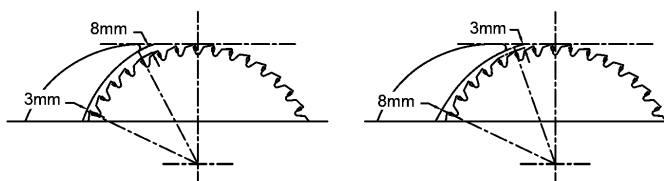

Fig. 18
2. The distance of the riving knife from the gear rim must be between 3 mm and 8 mm measured radially through the center of the saw spindle. As shown in **Fig. 18**.